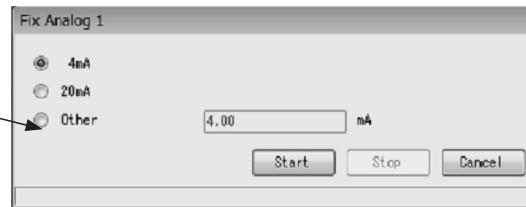
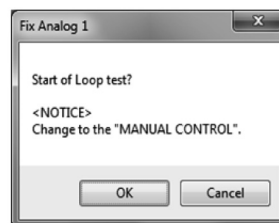

Fig.122
Fig.123
- ② The following window will be displayed (Fig. 122). Select the simulated output value and click the "Start" button. To pick another current value to output, select "Other" and click the "Start" button after inputting the analog value. Click the "Cancel" button to exit "Fix Analog".
- ③ Click the "Start" button to display a message box (Fig. 123). Click the "OK" button to start "Fix Analog". Click the "Cancel" button to return to the window shown in Fig. 122.
- ⑥ Clicking the "OK" button would return the interface to the window shown in Fig. 122, so click the "Cancel" button to exit "Fix Analog".